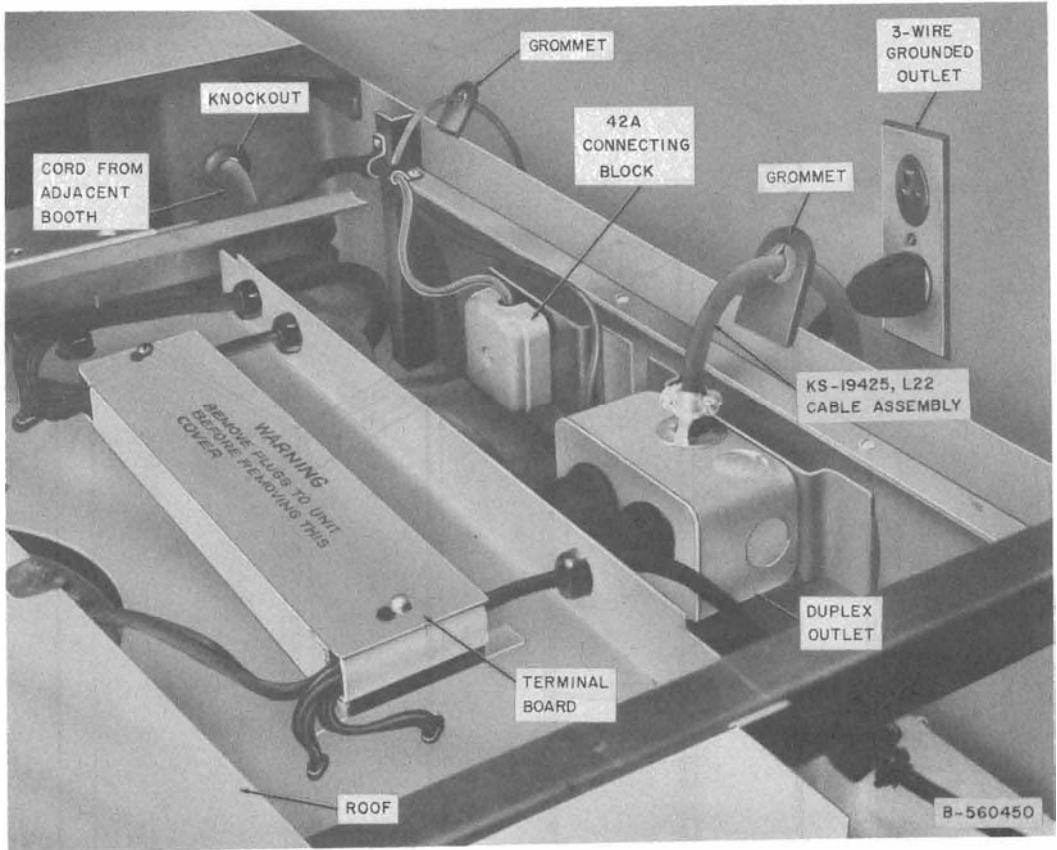

Fig. 6—Partial View of Ceiling Area
2.13 A 42A connecting block (Fig. 6) is included as part of the booth; however, a 123A1A protector may be used if required but must be ordered separately.
3.12 To make wiring accessible, remove dome assembly and work from inside of booth or remove the roof retaining screws and slide roof forward as shown in Fig. 6.
3.13 Insert station wire through roof grommet, through the cable clamp, and terminate on the 42A connecting block (Fig. 6) or 123A1A protector.
3.21 Internal electrical wiring can be checked on the terminal board located on ceiling above the light fixture (Fig. 6).